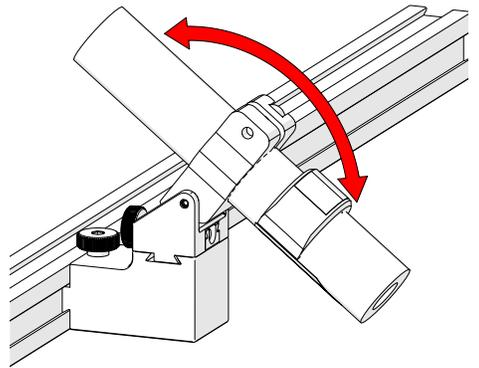

Fig. 80 - Aim optical guide
3. Adjust the battery powered optical guide's friction pivot. Direct the beam at the inspection surface (Fig. 80).